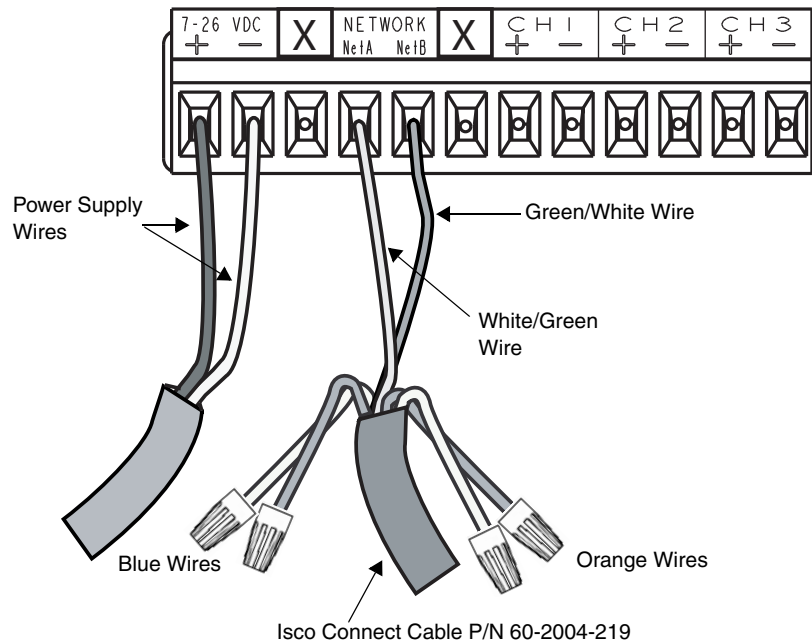

Figure 2-4 Terminal Connections if Flow Module is Powered Separately
5. Your connections should look like those in Figure 2-4.